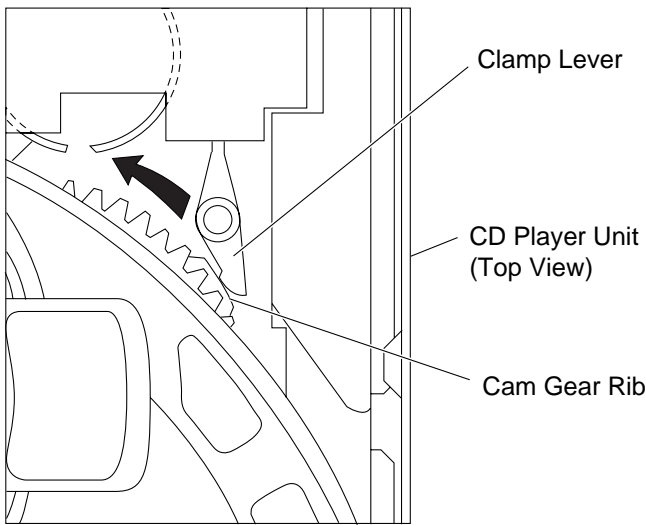

Figure 8-2
2. While holding the lock lever, rotate the cam gear anticlockwise until the cam gear rib engages with the clamp lever. (Fig. 8-2)